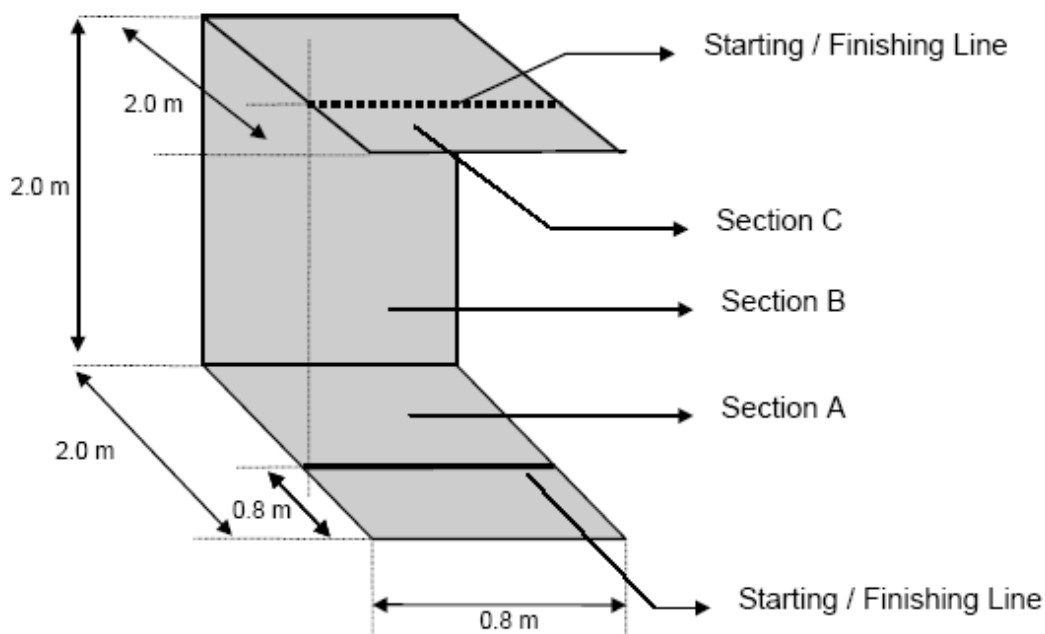

Figure 1: The wall for the wall-climbing robot race
2.1 The wall is shown in Figure 1. It consists of three sections: a two metres long horizontal section (section A) on the ground followed by a two metres high vertical section (section B) followed by a two metres long horizontal section (section C) at the top, with each section at least 0.8 metre wide. The following tolerance shall apply:
The wall will be deemed to have satisfied criteria (a) and (b) above and be considered fit for use if each of the two distances between diagonally opposite corners (using the side view in Figure 1) lies in the range 2733 mm to 2847 mm.
2.4 The supporting structure for the wall will have provision for two safety cables to be attached to the robot so that both cables can be used simultaneously during the race (not shown in Figure 1.)